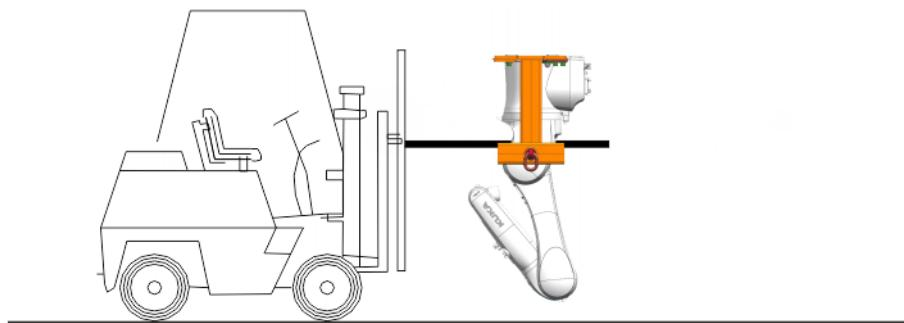

Fig. 8-11: Lifting the Load Lifting Attachment with a fork lift truck
12. Lift the Load Lifting Attachment with a fork lift truck (**>>>** Fig. 8-11).